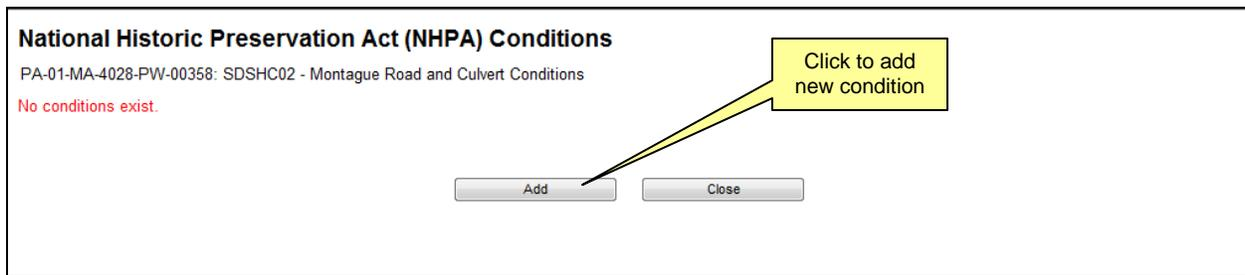

Figure 3.10: Adding conditions
- The *Conditions* screen will appear as shown in Figure 3.10.